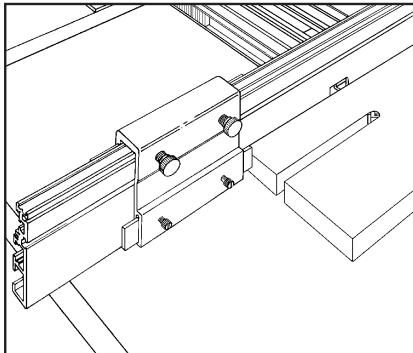

FIG. 4
Place a #8 flat washer on each of the (2) #8-32 x 1/2" thumb screws and insert through two of the holes in the black plastic stop positioner. Loosely install the (2) #8-32 hex nuts, then slide the nuts into the T-slot on the front of the Incra Fence. Fig. 4. When not in use, simply slide the stop positioner off the fence.